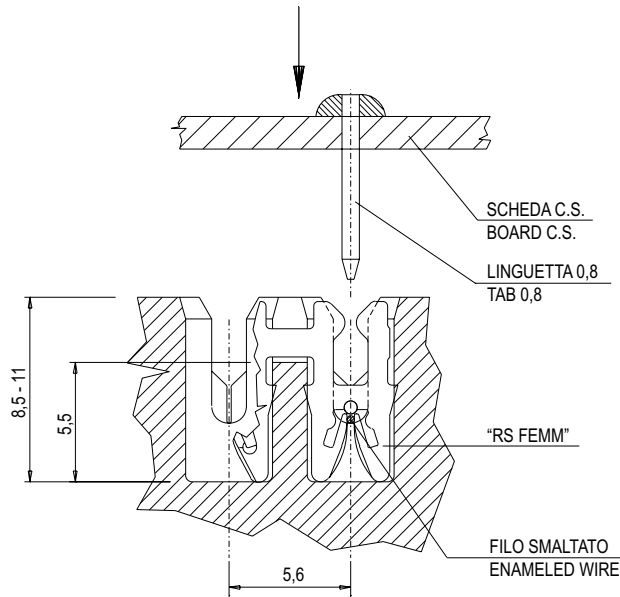

Fig. 10
**c-** When the connection between printed circuits boards is necessary the connection with "RS-FEMM" articles is realised by means of 0,4-0,8 mm thick tabs with no holes, and the winding wires. This connection takes place applying directly the terminal on enameled wires with an inserting machine and the following manual fitting of the boards. (see figure 10).